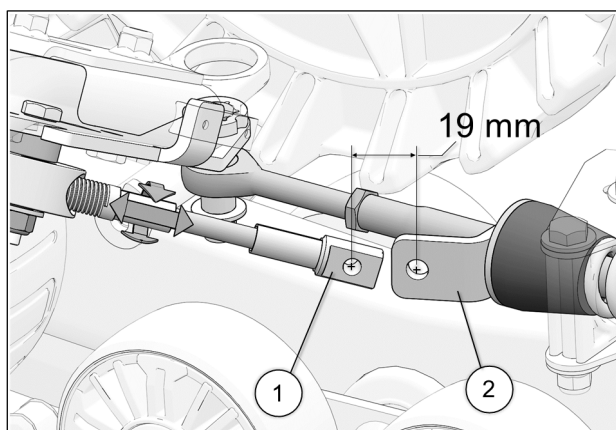

Fig. 23
14. Turn the vehicle's steering wheel to its maximum point of travel on the left. While maintaining pressure on the steering wheel, turn threaded rod to adjust length of cable. See Fig. 23
15. Position cable end hole (1), 19 mm [ $\frac{3}{4}$  in.] short of support plate (2) mounting hole. See Fig. 23